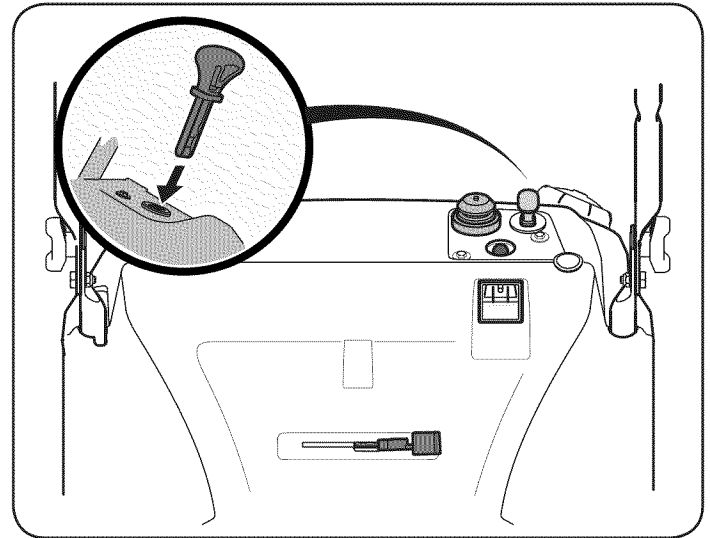

Figure 13
2. Insert ignition key into slot. Make sure it snaps into place. Do not attempt to turn the key. See Figure 13.